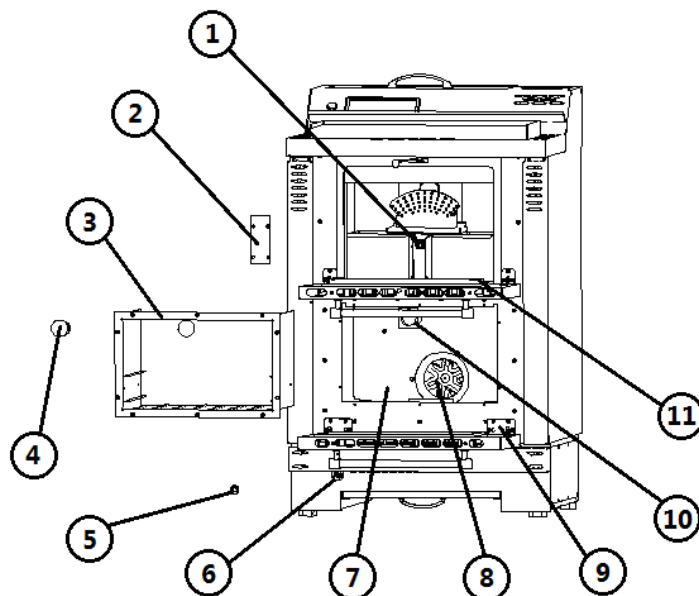

Fig. 37 - Front view
LEGEND Fig. 37 page 33
- Loosen the 4 screws on the spark plug cover (see Fig. 37 page 33).